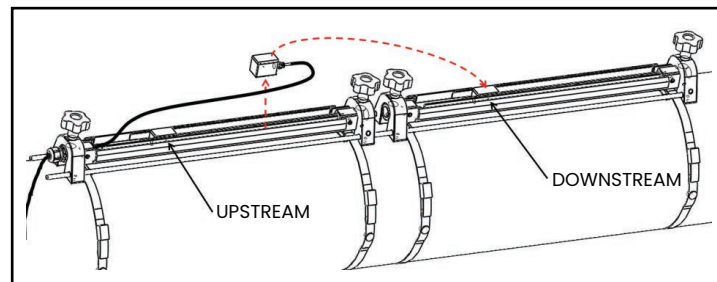

Figure 16: Moving the downstream transducer
- b. Remove the downstream transducer from the first fixture (see *Figure 16* below), disconnect the transducer cable, and route the cable into the second fixture. Then, install the downstream transducer into the second fixture and reconnect the transducer cable. If you are using solid couplant, apply it to both transducer faces. Then, rotate the transducers back onto the rail.